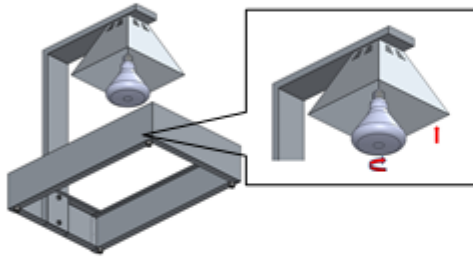

Fig.3
4. Screw the Bulb(s) into the bulb socket(s). [ Fig.3 ]